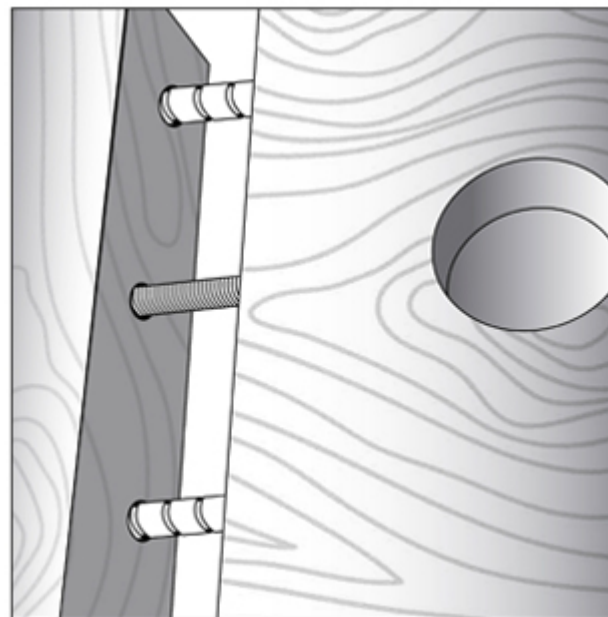

Figure 2
2. Assemble the bed frame by screwing threaded rods into inserts on headboard and footboard rails. Place dowels in pre-drilled holes. Align dowels and rod with holes on side rail and push together. (Figure 2)